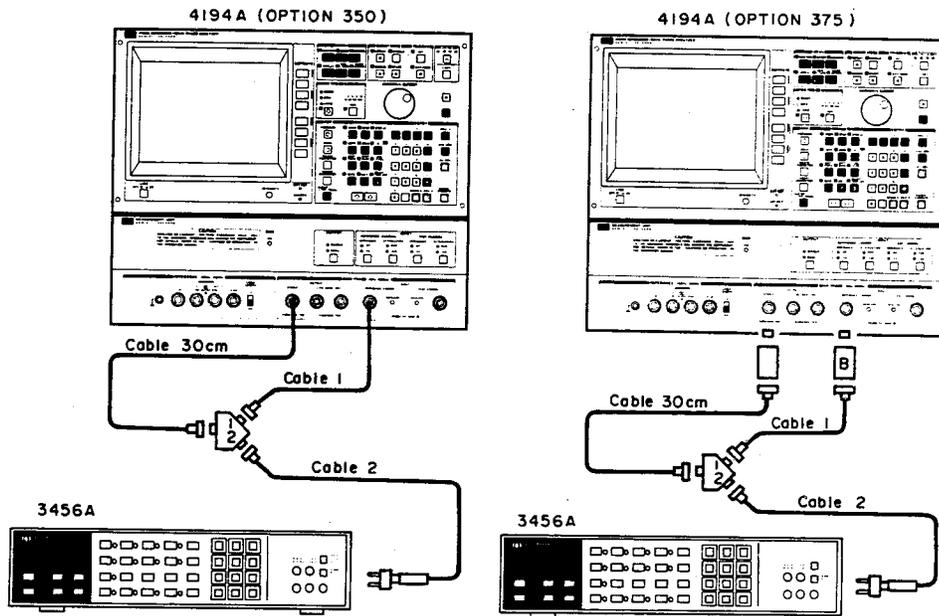

Figure 4-15. Amplitude Measurement Accuracy Test Setup 1
1. Set up the equipment as shown in Figure 4-15.